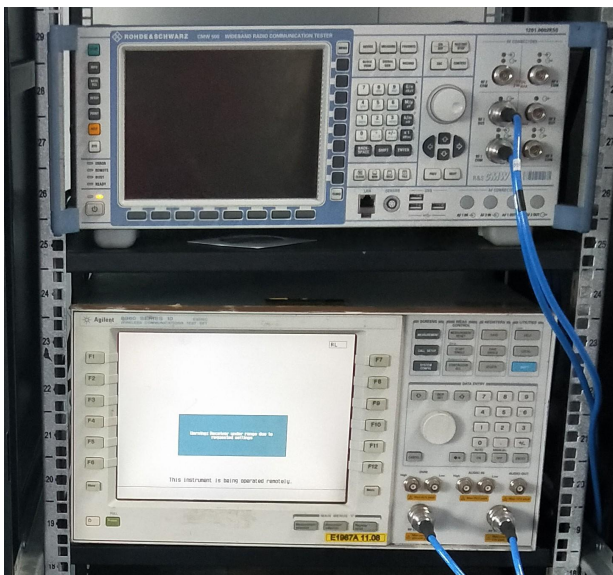

Figure.4
- C. The measured results of the radiation patterns and antenna gain are obtained from the control system and showed on the monitor (see figure. 4 and 5).